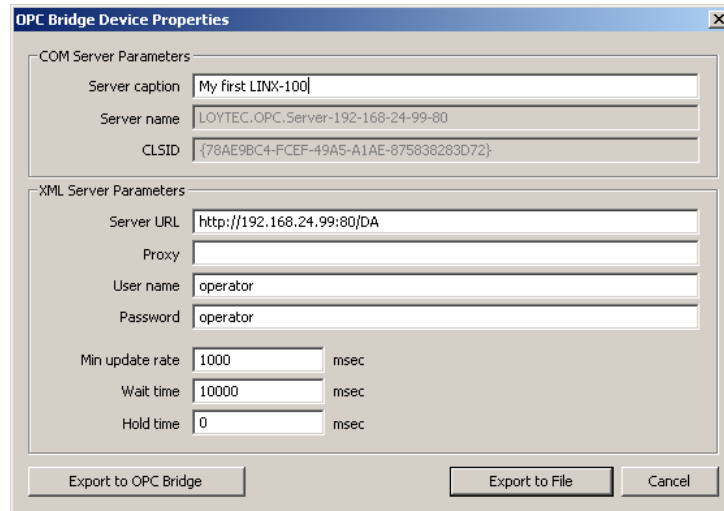

Figure 142: Bridge Export dialog.
4. In the **OPC Bridge Device Properties** dialog as shown in Figure 142 add information, which is not default, i.e., Min update rate, Wait time and Hold Time. If the operator user has a non-default password, enter the password.